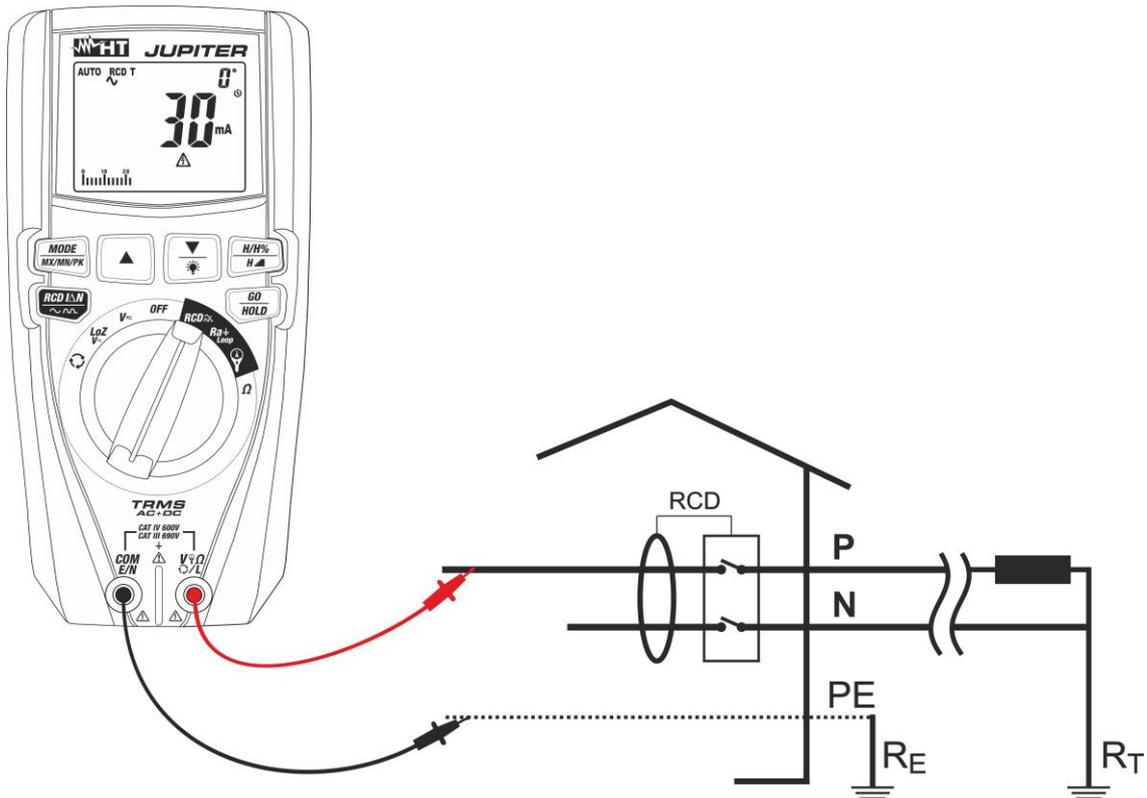
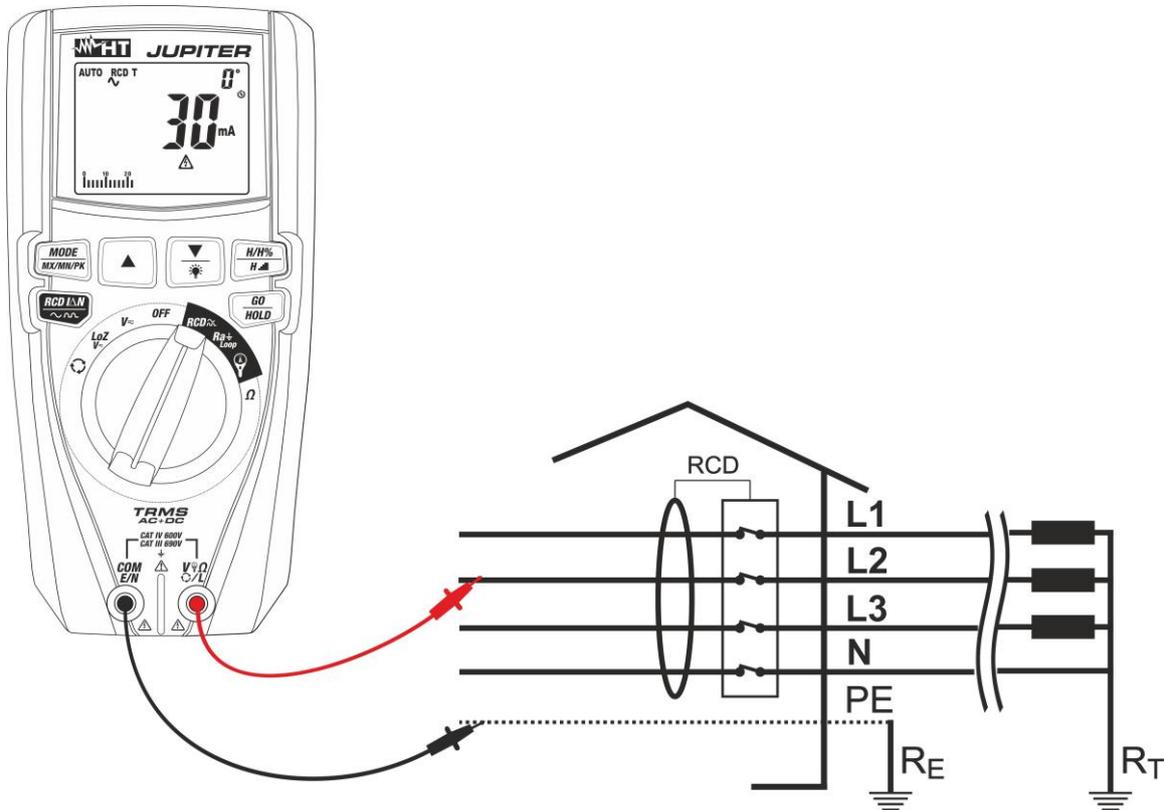

Fig. 30: Use of the instrument for RCD test on single-phase system with leads
Fig. 31: Use of the instrument for RCD test on three-phase system with leads
7. In case measuring leads are used, insert the red conductor into input terminal **V Ω L** and the black conductor into input terminal **COM/E/N** and connect the instrument to the system to be tested (see Fig. 30 or Fig. 31). The presence of phase-to-earth voltage is shown in the bargraph